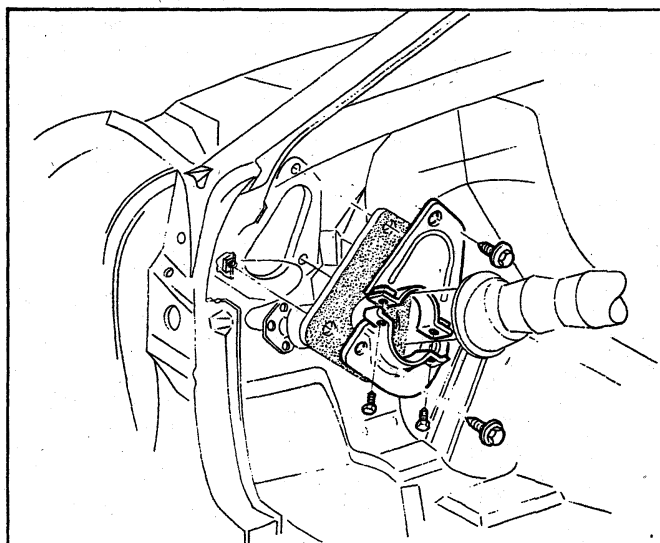
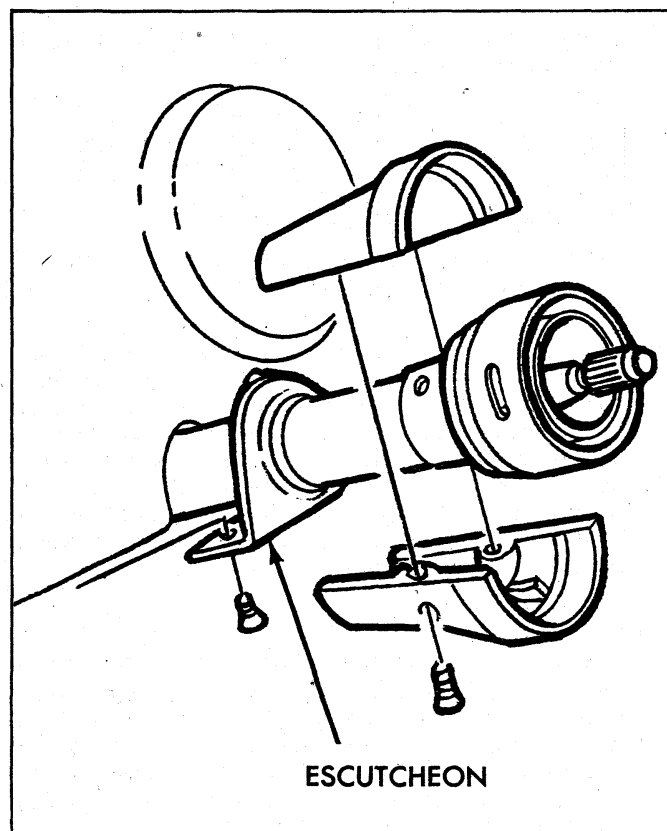

Fig. 13—Removing or Installing Dash Panel Covers and Seal
Fig. 14—Steering Column Escutcheon—Corvette
4. Inside vehicle, remove trim cover or boot, protective covers, and seal from dash panel as shown in Figure 13. On Corvette models the covers are removed in the engine compartment side. Also on Corvette models, remove screws securing escutcheon (fig. 14) to instrument panel.
7. Inside vehicle, install seal, protective covers, and trim cover or boot (fig. 13). On Corvette models the covers are installed in the engine compartment side.